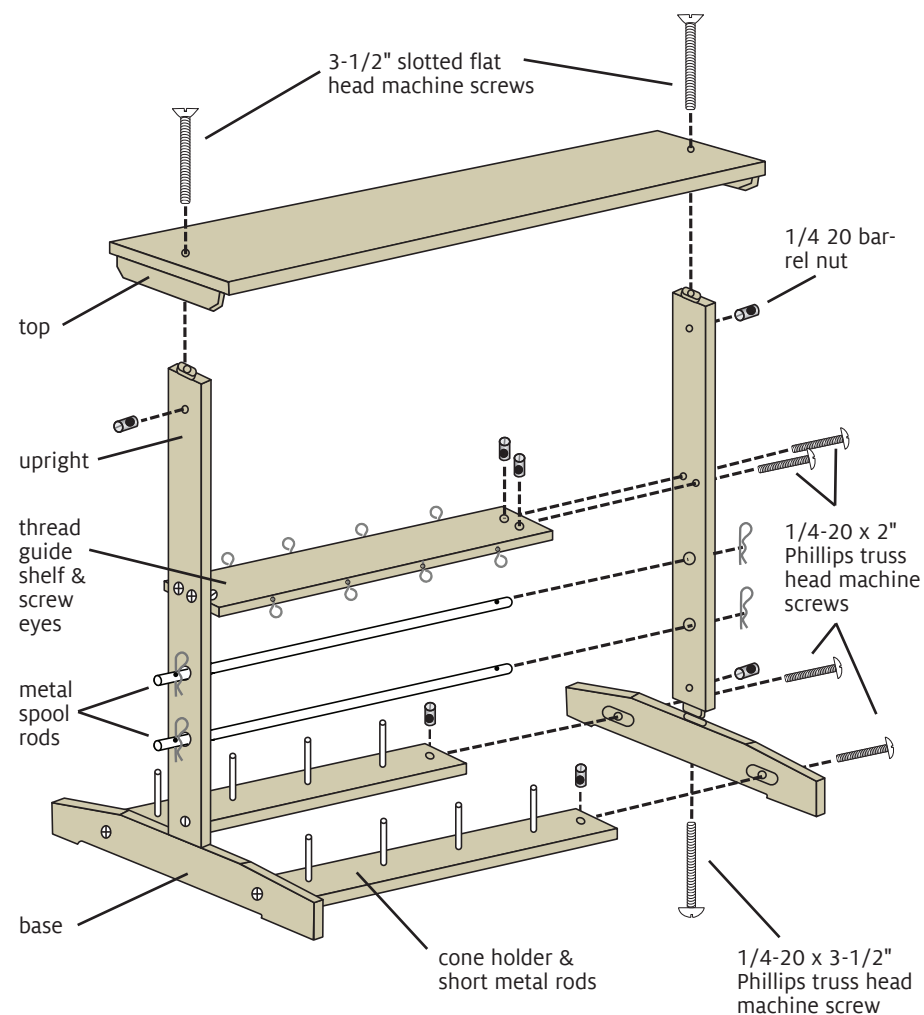

FIGURE 1: WINDING STATION ASSEMBLY
1. Attach four screw eyes to each long edge of the thread guide shelf, as shown in Figure 1. Start each screw eye in the pre-drilled holes by hand, then use the 4" steel rod to tighten them parallel to the shelf top.
2. Set the cone holders on a flat surface. Install a short metal rod in each of the holes, as shown in Figure 1. Protect one rod with a scrap of hard wood and tap firmly into place with a hammer or mallet. Repeat for all rods.
3. Orient the bases so the oval holes face inward, as shown in Figure 1. Attach the two cone holders to the bases using a 1/4-20 x 2" Phillips truss head screw and a 1/4-20 barrel nut at each end.